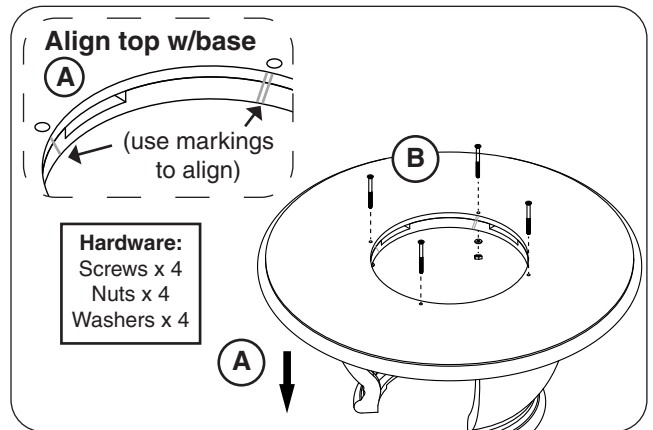

Fig. 28-3 Place top and fasten
3. **CAREFULLY** place the top on the unit, ensuring that the markings along its inner ring align with those found on the base (see Fig. 28-3, A).
4. Use a flathead screwdriver and the supplied bolts (4), nuts (4), and washers (4) to fasten the top to the base as shown in Fig. 28-3, B.